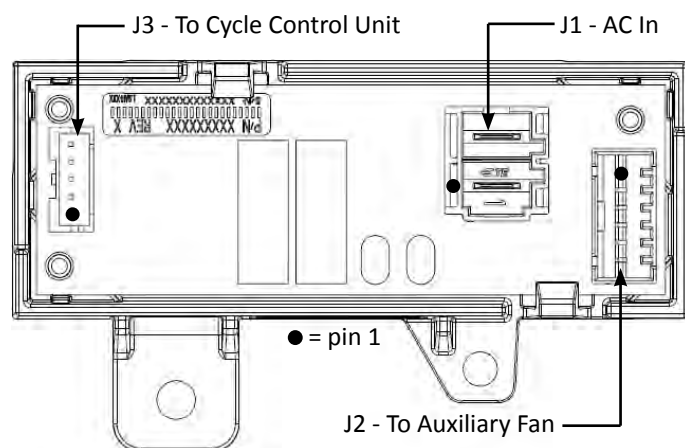

Figure 1 - Relay Expansion Board
4. Visually check that the J2 connector is inserted all the way into the Relay Expansion board. Refer to Figure 1